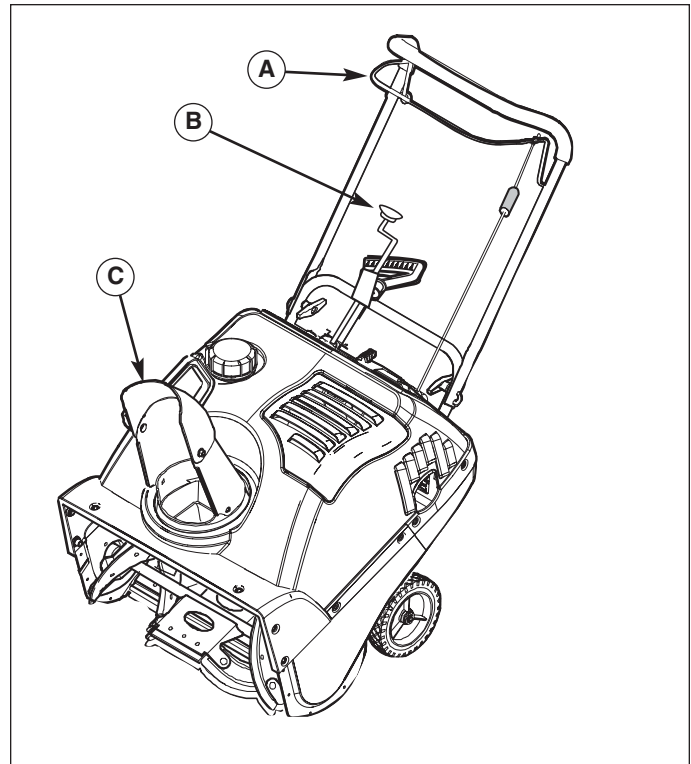

Figure 7. Snowthrower Controls
C. Chute Deflector - Controls the distance snow is thrown. Tilting the Chute Deflector (C, Figure 7) UP provides a higher stream and greater distance, while tilting the deflector DOWN provides a lower stream and less distance.
3. Check the Auger Control (A, Figure 7) for proper operation. If adjustment is required, see the Service Section for procedures.
4. Check the Chute Direction Control (B, Figure 7) for proper operation. The discharge chute should rotate freely in both directions. See the Service section for adjustment procedures and troubleshooting.
5. Check the Chute Deflector (C, Figure 7) for proper operation. The deflector should pivot freely up and down. See the Service Section for procedures.